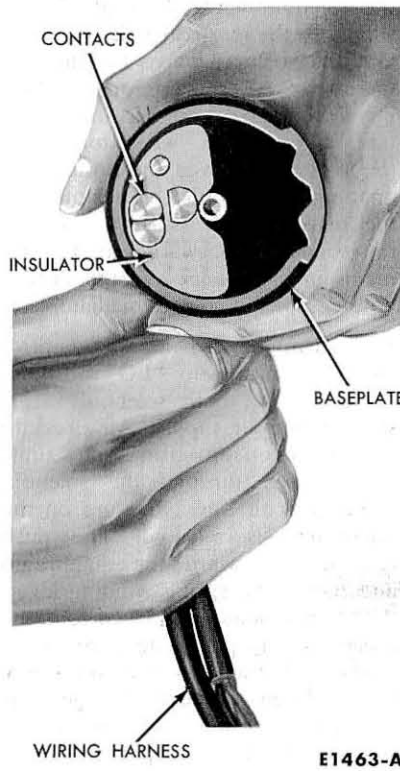

FIG. 16—Installing Wiring Harness in Base Plate
1. Pass the wiring harness through the base plate, (Fig. 16) positioning the insulator in the recessed area